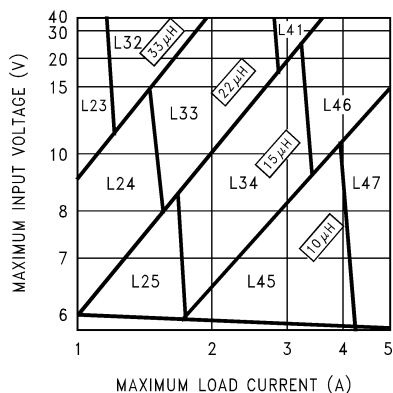
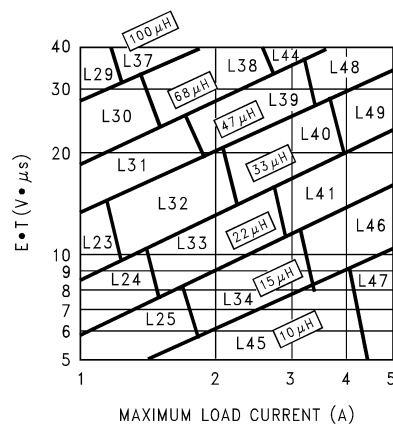

Figure 21. LM2678-3.3
Figure 24. LM2678-ADJ
Step 3: Determine the inductor required by using one of the four nomographs, Figure 21 through Figure 24. Table 1 provides a specific manufacturer and part number for the inductor.
Step 5: Determine an input capacitor from Table 6 for fixed output voltage applications. Use Table 3 to find the specific capacitor type. For adjustable output circuits select a capacitor from Table 3 with a sufficient working voltage (WV) rating greater than $V_{in\text{ max}}$, and an rms current rating greater than one-half the maximum load current (2 or more capacitors in parallel may be required).
Step 3: Use the nomograph for the 3.3V device, Figure 21. The intersection of the 16V horizontal line ($V_{in\text{ max}}$) and the 4A vertical line ($I_{load\text{ max}}$) indicates that L46, a $15\mu\text{H}$ inductor, is required.
Step 3: To use the nomograph for the adjustable device, Figure 24, requires a calculation of the inductor Volt•microsecond constant ($E \cdot T$ expressed in $V \cdot \mu s$) from the following formula:
Using Figure 24, the intersection of $27V \cdot \mu s$ horizontally and the $3.5A$ vertical line ($I_{load} \max$) indicates that L48, a $47\mu H$ inductor, or L49, a $33\mu H$ inductor could be used. Either inductor will be suitable, but for this example selecting the larger inductance will result in lower ripple current.
When using the adjustable device in low voltage applications (less than $3V$ output), if the nomograph, Figure 24, selects an inductance of $22\mu H$ or less, Table 12 and Table 13 do not provide an output capacitor solution. With these conditions the number of output capacitors required for stable operation becomes impractical. It is recommended to use either a $33\mu H$ or $47\mu H$ inductor and the output capacitors from Table 12 and Table 13.